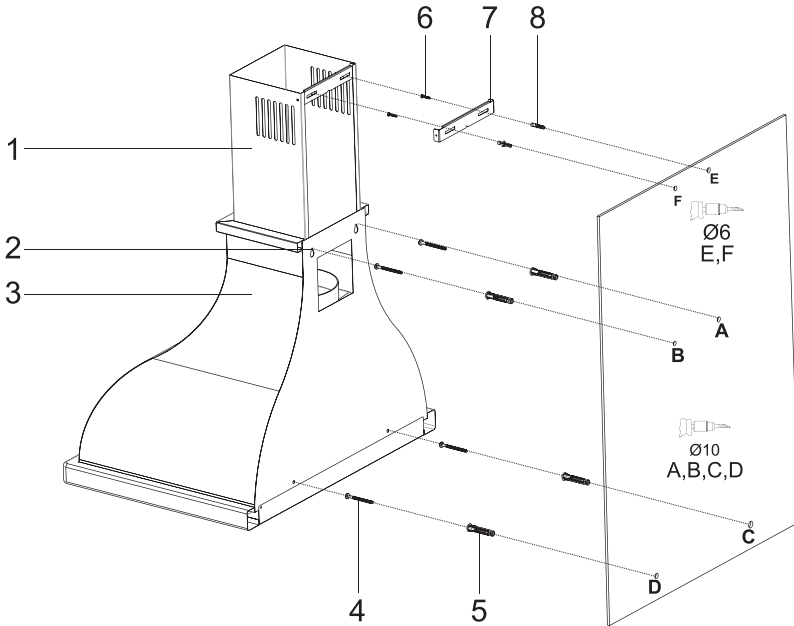

Fig. 10: ASSEMBLY INSTALLATION AND COMPONENTS
- Affix the assembly pattern on the wall, at the specified height (See the minimum and maximum distances intended for the worktop, in the assembly pattern). Drill holes A, B, C and D (Fig. 10).
- Insert Ø10mm wall plugs (5) into the holes drilled as A, B, C and D, and screw down the screws (4) at the points A, B, C and D, in such a way as to remain 5mm space between the screw head and the wall (Fig. 10).
- The cooker hood is set in the midst, and then the flue connecting plate (3) is directly affixed to the wall, under the cover or points E and F are marked after performing a measurement. (Fig.10)
- Drill points E and F with $\varnothing 6\text{mm}$ drill bit, and insert $\varnothing 6\text{mm}$ and plastic dowels. Insert the flue connection plate with 3.9x22 screws (Fig.10)